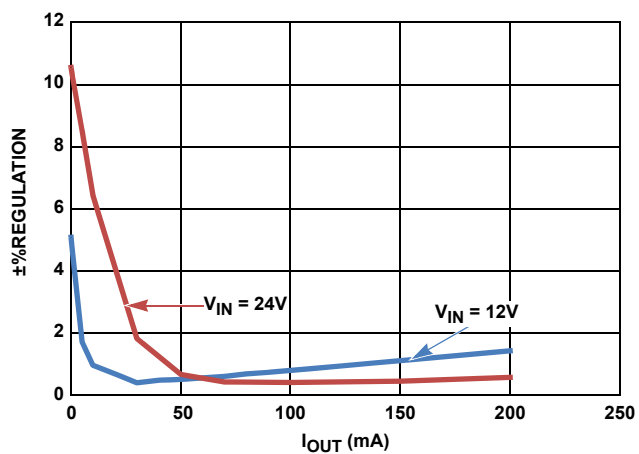
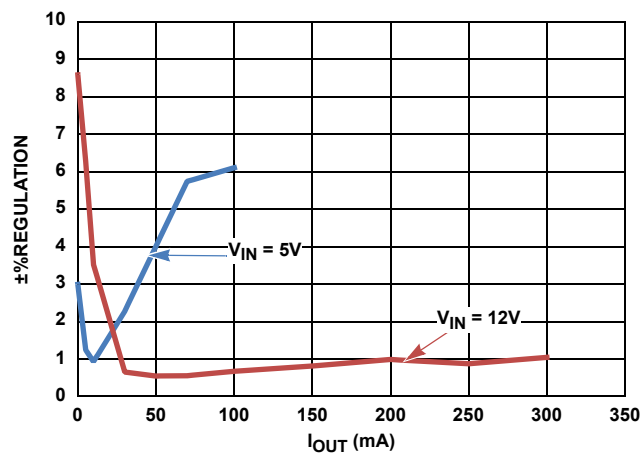

FIGURE 10. $V_{OUT} = 5V$, $\%REGULATION$ vs I_{OUT}
FIGURE 11. $V_{OUT} = 3.3V$, $\%REGULATION$ vs I_{OUT}
- Continuous output current up to 300mA (refer to Figures 10 and 11)
The curves in Figure 10 indicate the secondary output voltage regulation versus the load applied in the secondary output, without any load on the primary output for $V_{OUT} = 5V$, at different input voltages. The curves in Figure 11 indicate the secondary output voltage regulation versus the load applied in the secondary output, without any load on the primary output for $V_{OUT} = 3.3V$, at different input voltages.